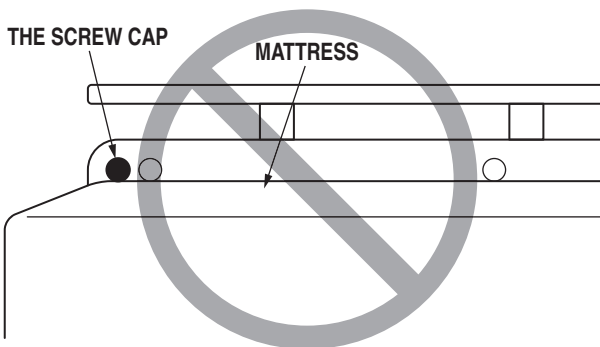

Figure 2-26. Recognize the screw caps
- Install a table board in order not to recognize the screw caps. (Figure 2-26)